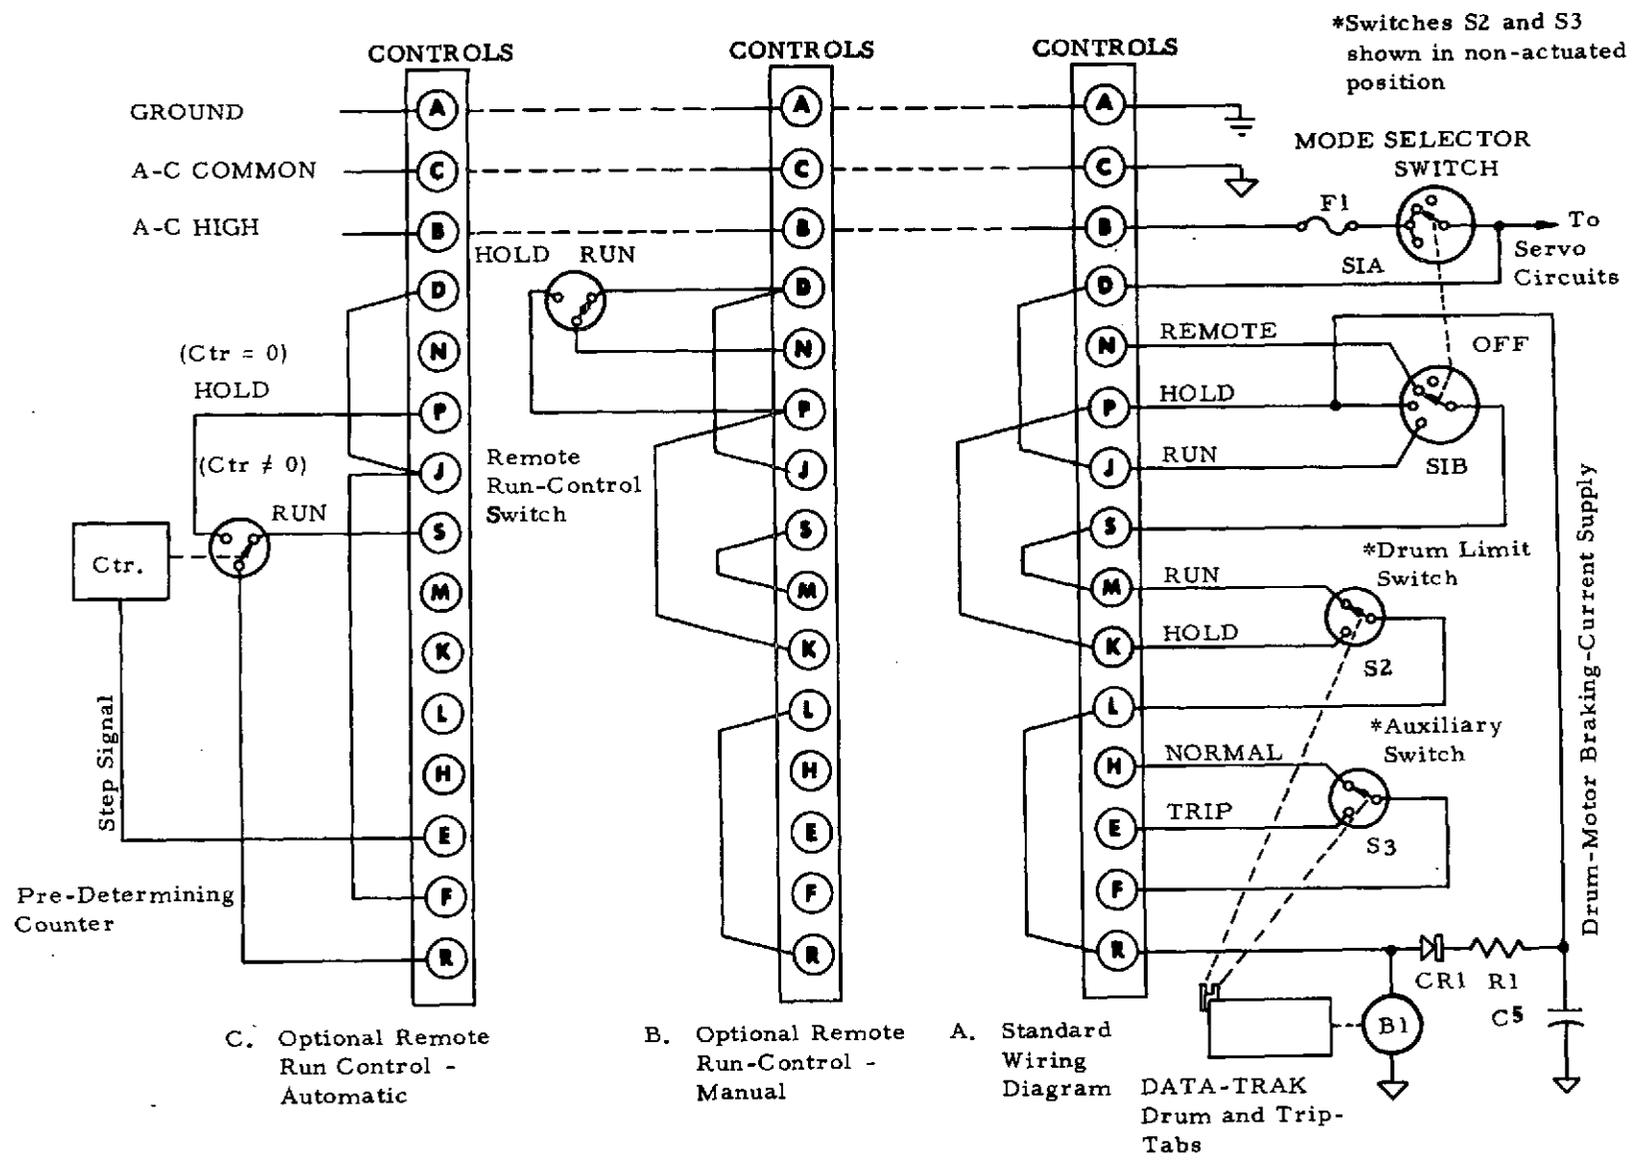

FIGURE 5-1 MODEL 5110 DATA-TRAK STANDAR D/SPECIAL RUN-CONTROL WIRING DIAGRAM
Standard wiring of the terminals and two alternate wiring methods are shown in Figure 5-1 and described under the following headings.
For clarity, the terminals are not shown in their normal sequential order in Figure 5-1. Also, the internal DATA-TRAK wiring and components are shown but once since it is identical in each of the two additional examples.
Example B in Figure 5-1 illustrates the manner in which an external remote-control switch may be connected to the DATA-TRAK. No changes in the standard wiring of the terminals are required for this application; just connect three wires from the external switch to the terminals as shown in the figure. The remote-control switch will be enabled to initiate a RUN or HOLD only when the MODE-SELECTOR is switched to REMOTE; either drum-motor a-c energizing current or d-c braking current will then be allowed to pass through the remote switch, through the REMOTE contacts of the MODE-SELECTOR, and on through the Drum-Limit switch to the drum-drive motor.
For applications requiring continuous drum-rotation for a predetermined number of program cycles, the run-control circuits of the DATA-TRAK may be connected to an external predetermining counter as shown in example C in Figure 5-1.
The examples shown in Figure 5-1 are not intended to represent all possible external connections for special functions, but are merely presented as a basis for a clear understanding of the circuitry involved. A number of additional optional applications of the run-control circuitry are listed below and on the following page.
- 4) If two auxiliary switches are required for an operation in unlimited or predetermined program-cycle applications, the Drum-Limit switch may be utilized along with the standard Auxiliary switch for this purpose. Three jumpers must be removed from the entrance board (from "S" to "M", from "P" to "K", and from "L" to "R") as they are in example C of Figure 5-1. External wiring may then be connected to terminals "M", "L", and "K" in a manner appropriate for the particular function desired. If this is done, a jumper must be installed between terminals "S" and "R" to enable the drum-drive circuits.